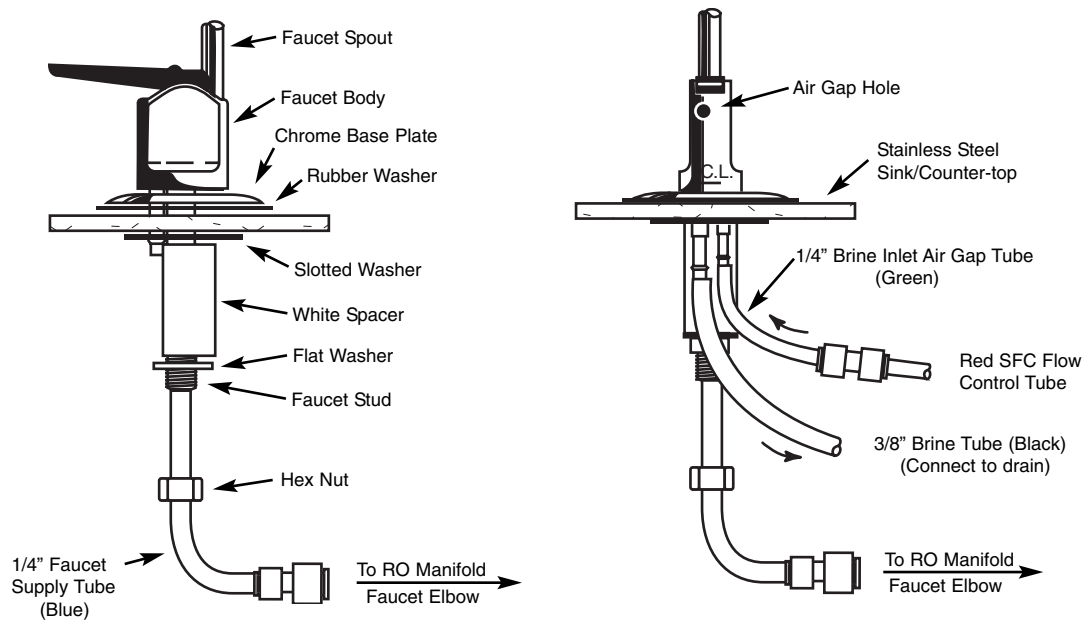

Figure 2
1. Review components shown in Air Gap Faucet diagram. (Figure 2)